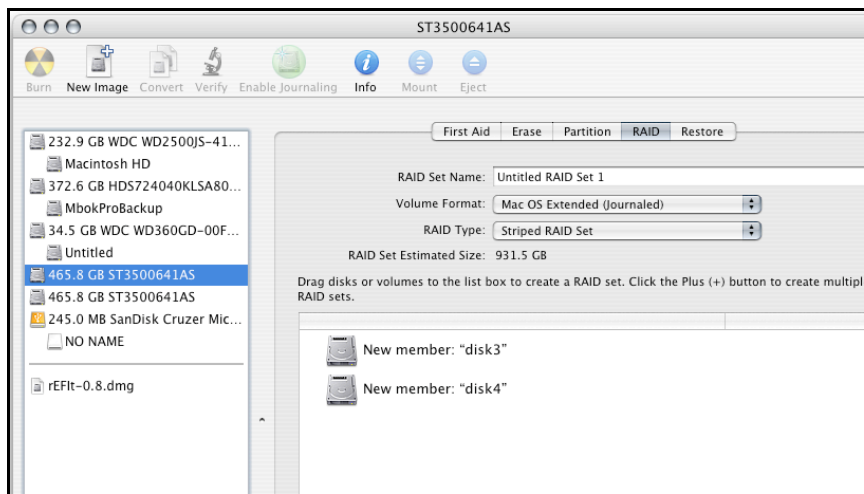

Figure 10: Example drives and options for a RAID volume;
- Carefully select and drag a hard drive to add it as a member of the new RAID volume in the *Disk Utility* status window (Figure 10).